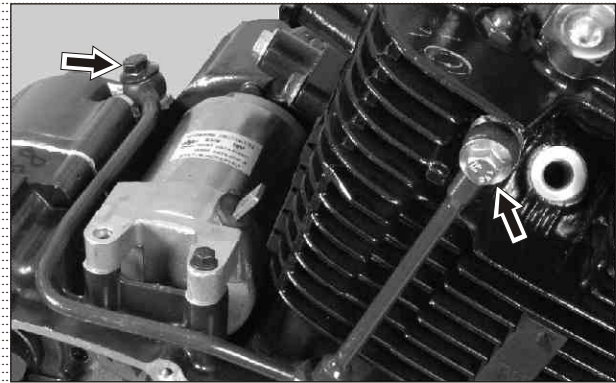

Fig. 3.54
- Remove union bolt oil pipe (2 nos) along with gaskets oil pipe union (4 nos) and take out the pipe complete head T/M oil. (Fig. 3.54)